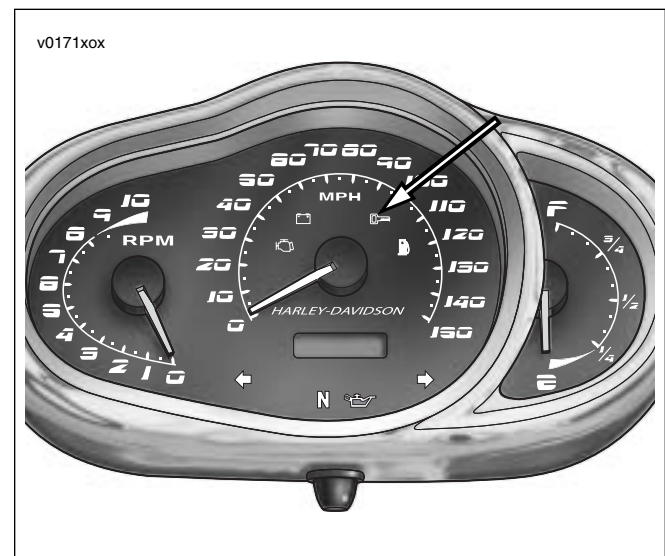

Figure 3-5. TSSM Lamp (typical) (VRSCR shown)
- **Security status lamp:** See Figure 3-5. A lamp within the instrument module face tells the rider if the system is armed or disarmed.